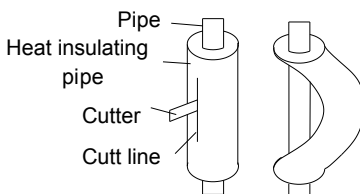

Fig. 4.12
- (2). Do not bend the pipes in an angle more than 90°.
- (3). When pipes are repeatedly bent or stretched, the material will harden, making it difficult to bend or stretch them any more. Do not bend or stretch the pipes more than three times.
- (4). When bending the pipe, do not bend it as is. The pipe will be collapsed. In this case, cut the heat insulating pipe with a sharp cutter as shown in Fig. 4.12, and bend it after exposing the pipe. After bending the pipe as you want, be sure to put the heat insulating pipe back on the pipe, and secure it with tape.